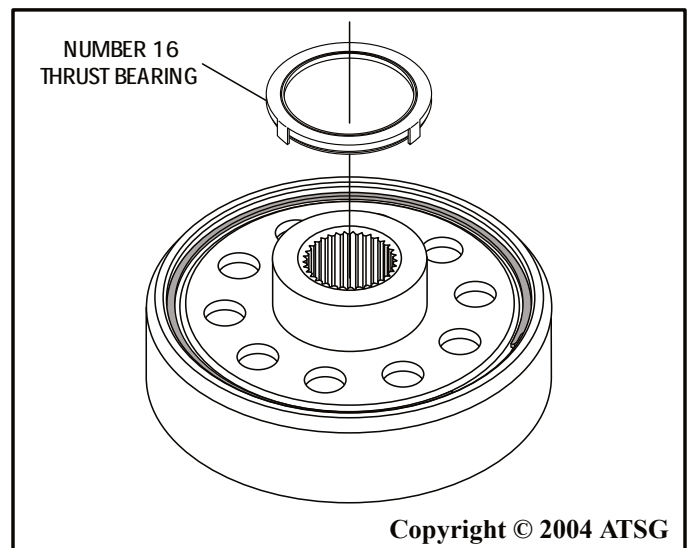

Figure 159
11. Install number 16 thrust bearing in direction shown in Figure 159, and retain with a small amount of Trans-Jel®.